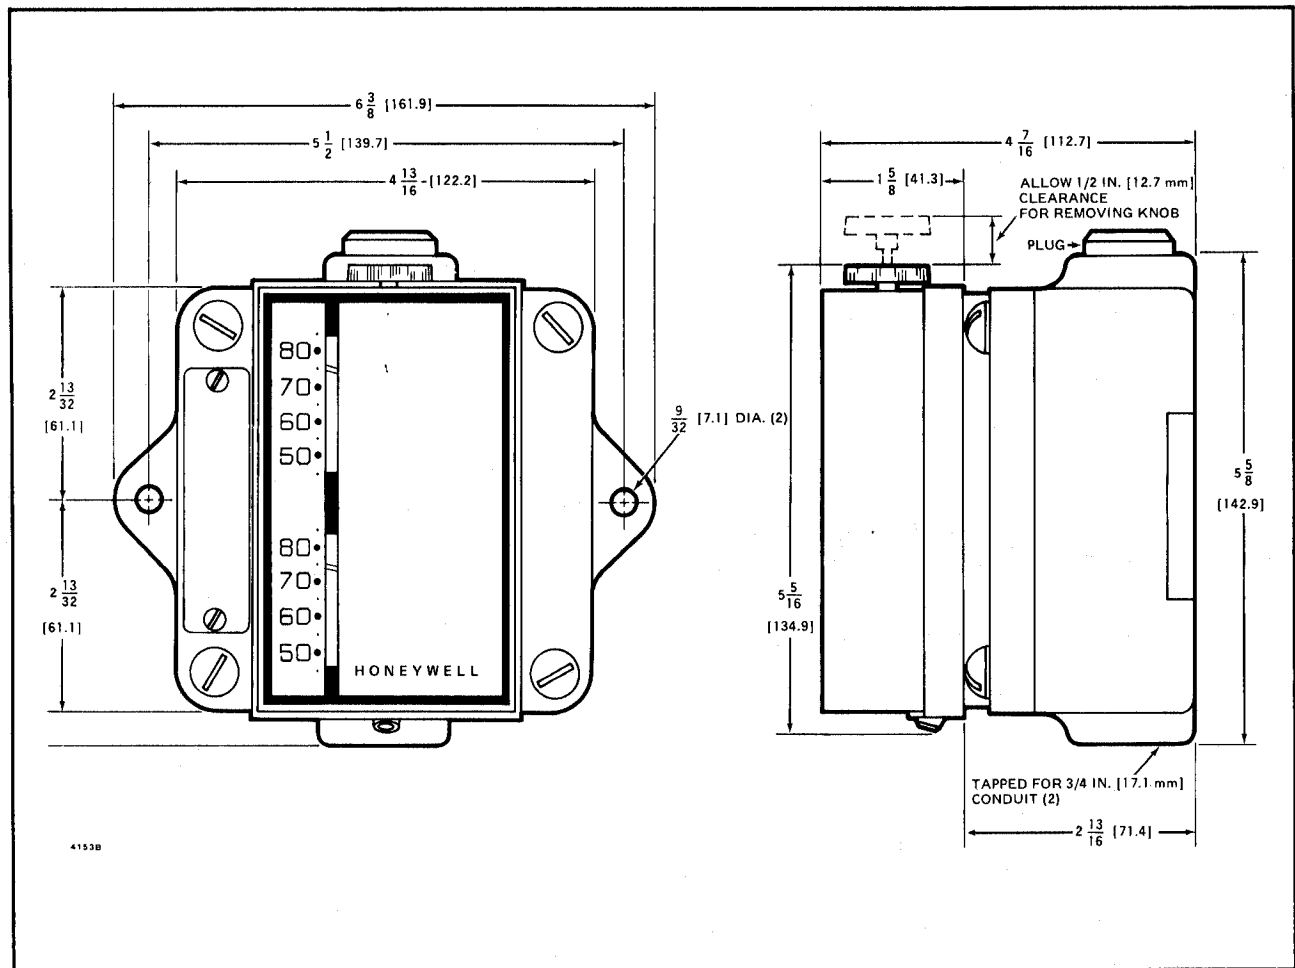

FIG. 1—MOUNTING DIMENSIONS FOR T6051B IN INCHES [MILLIMETRES SHOWN IN BRACKETS].
DIMENSIONS, IN INCHES [MILLIMETRES IN BRACKETS]: All models except T6051B—5 [127] high, 3-1/8 [79.4] wide, 1-5/8 [41.3] deep. Switches and wiring terminals protrude into outlet box 7/8 inch [22.2 mm]. T6051B—see Fig. 1.
2. After selecting a location, mount the explosion-proof housing on the wall (Figs. 1 and 4).